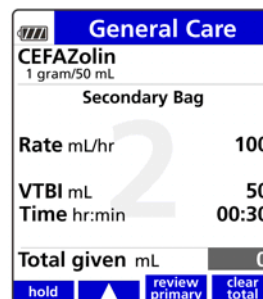

Figure 47. Secondary Bag Setup Screen.
NOTE: A watermark is displayed behind the value to help distinguish the Secondary (2) Setup screen from the Primary (1) Setup screen. See Figure 47. This watermark does not appear on primary-only infusions.